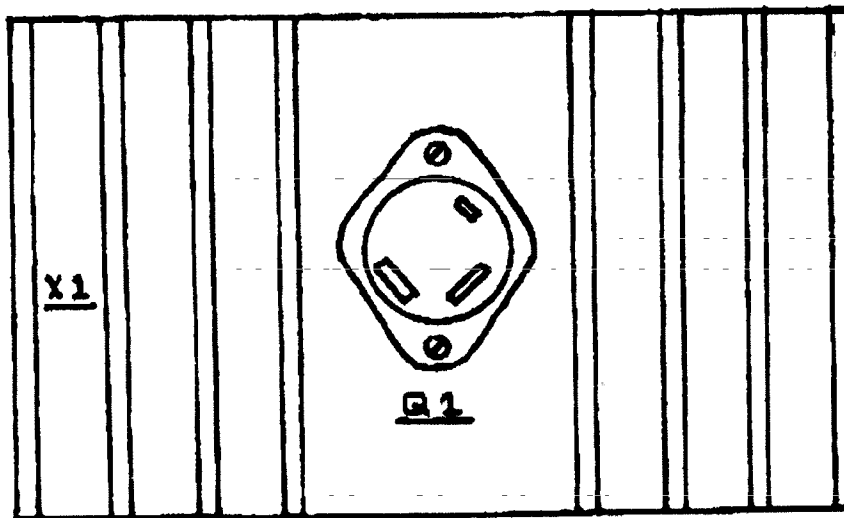

FIGURE 3.0
11.2 POWER MODULE (REFER TO FIGURE 3.0)